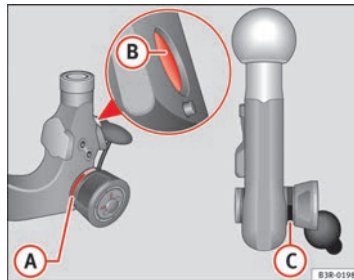

Fig. 154 Removable towing bracket: Ball joint ▶
- Check that the red marking (A) ⇒ fig. 154 on the knob is inside the black zone marked on the ball joint.
- Check that the locking pin (B) is inside the holes in the shaft section of the ball joint.
- Check that the knob protrudes visibly from the ball joint, so that there is a clear gap (C) between the knob and the ball joint.